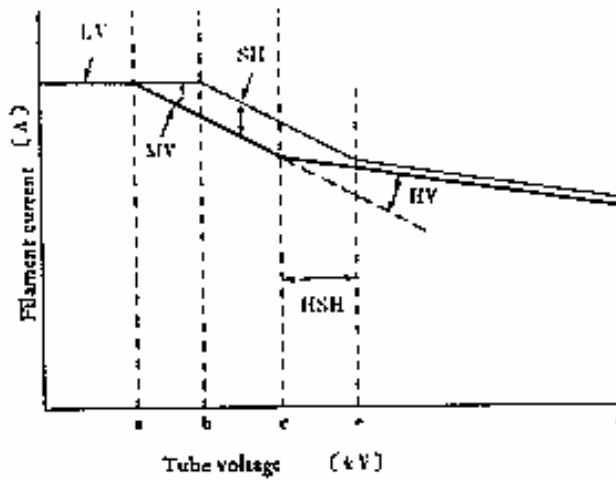

Fig. 3-5-6
- (2) Figure 3-5-6 is the curve to illustrate the relation between the tube voltage and the X-ray
- (3) The filament current and tube voltage relation when the mAs selector is set beyond 6 mAs becomes as described below. (See Fig. 3-5-6.)
(4) The filament current and tube voltage relation when the mA's selector is set below 5 mA's is as explained hereunder. (See Fig. 3-5-6.)